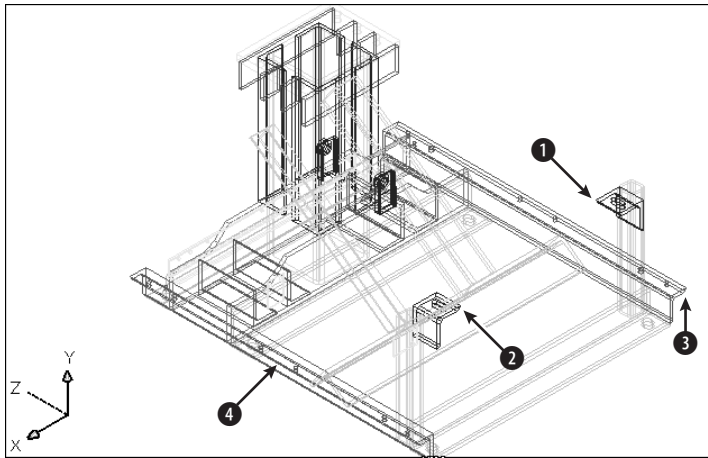

Figure 28-8: The base assembly frame
2. Save the file as `ab28-01.dwg` in your **AutoCAD Bible** folder. This is a 3D drawing of a base assembly frame for an industrial washer, shown in Figure 28-8.
4. Choose `Insert` ⇨ `Hyperlink`. At the `Select objects:` prompt, pick ① and ② in Figure 28-8. AutoCAD opens the `Insert Hyperlink` dialog box.
6. Repeat the `HYPERLINK` command. This time attach ③ and ④ in Figure 28-8 to `ab28-b.dwf` in your AutoCAD Bible folder. Click `OK` to close the dialog box.